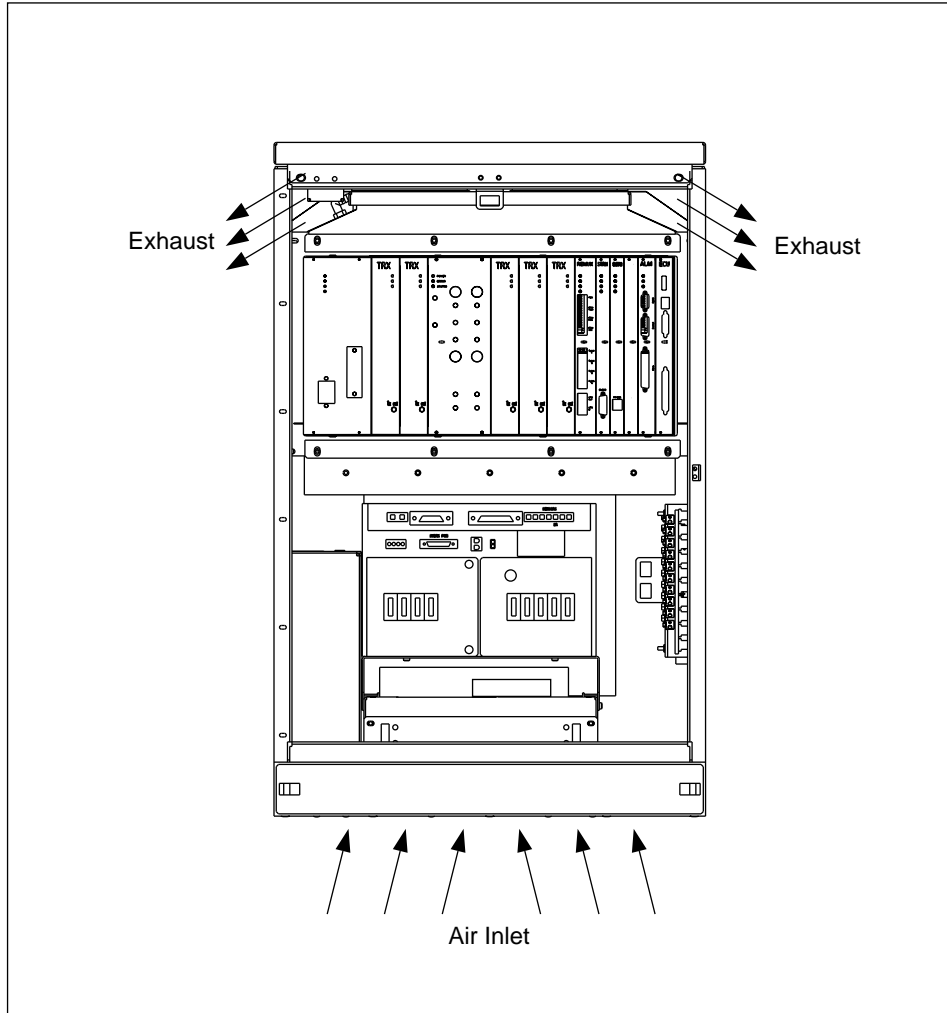

Figure 3-2. RBS 884 Micro (1900 MHz) With Cooling Airflow Pattern
– 45°C cooling air during normal operation. Figure 3-2 on page 3-4 shows the cooling airflow pattern that is established by the environmental control system. Cabinet siting must allow for adequate airflow space and cable access and routing space to the bottom of the cabinet.